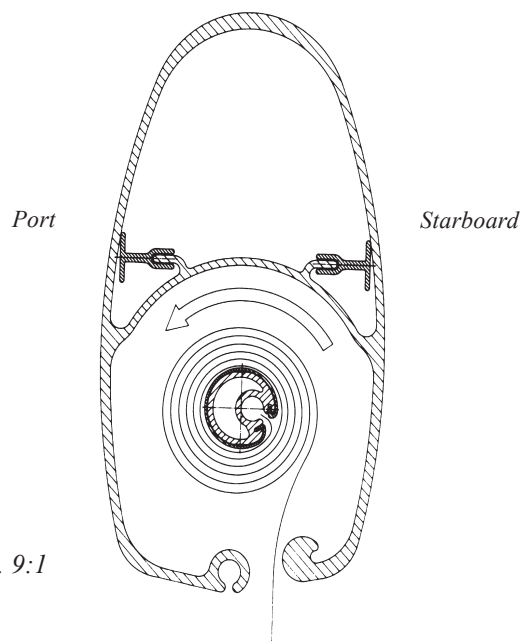

Fig. 9:1
8. Furl the sail until the clew is exposed. The luff extrusion is asymmetrical to facilitate rolling in one direction, and the sail should always be rolled onto the starboard side of the luff extrusion. The Reefing Winch should be turned clockwise. See Fig. 9:1.
1. Check that the sail is correctly furled on the STARBOARD SIDE of the luff extrusion. (See Fig. 9:1).